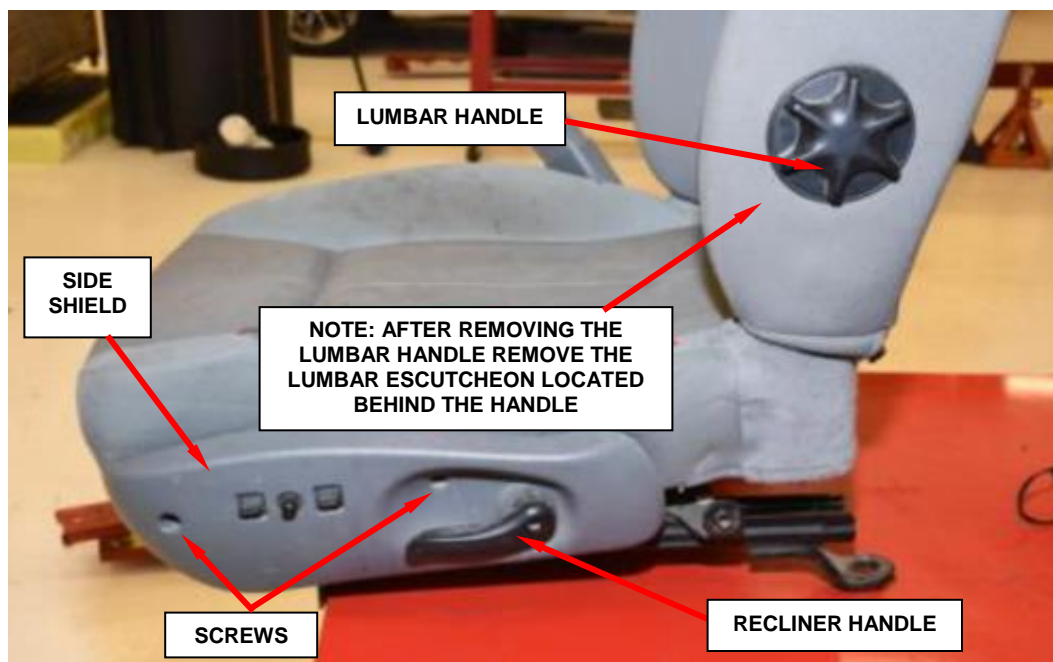

Figure 17 – Side Shield, Lumbar and Recliner Handles
25. Remove the lumbar handle, escutcheon and recliner handle (Figure 17).
26. Remove the screws and side shields (Figure 17).